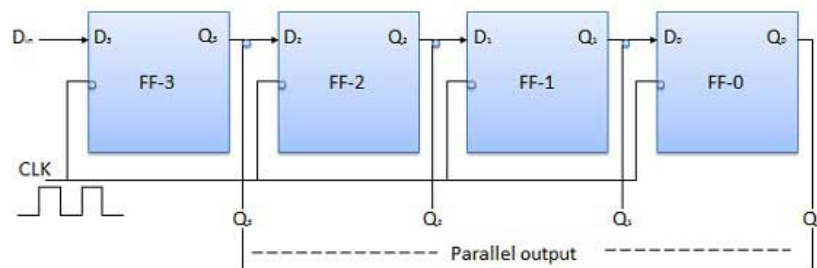

Figure 14.2. Serial Input Parallel Output (SIPO)
3. Repeat step 1 for Figure 14.2, 14.3 and 14.4.